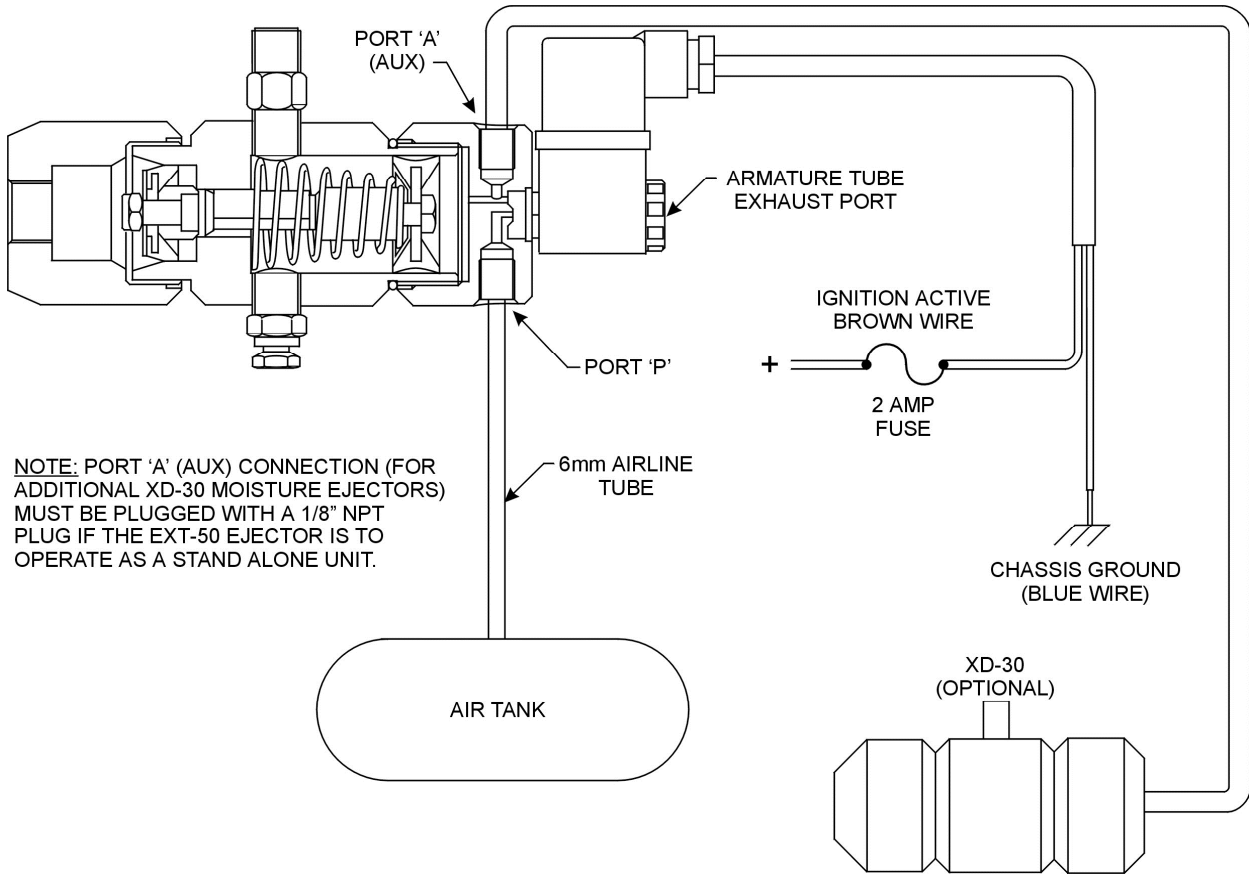

Figure 21 DumpMaster® Drain Valve Wiring Diagram
2. No constant air supply to pressure port (P).	2. Connect a constant air supply line from the secondary tank to the (P) port on the DumpMaster® EXT-50 Drain Valve. Refer Figure 6 and Figure 21 and Paragraph 3.1 Sub Paragraph 4.
3. Auxiliary Port (A) open to atmosphere.	3. Connect a 1/4+(6mm) air line to DumpMaster® XD-30 drain valve on wet tank or plug with 1/8+NPT plug if DumpMaster® XD-30 drain valve is not fitted. Refer Figure 6 and Figure 21 and the Note in Paragraph 3.1 Sub Paragraph 4.
4. No Power/Low Voltage.	4. Check for constant live and correct voltage at timer lead connection BROWN wire positive (+), BLUE wire negative (-). Refer Figure 21.
Carry out the following procedures to override the Timer (refer Figure 21):